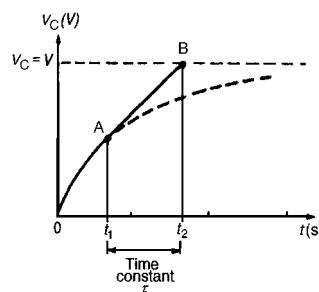

Figure 18.3
- (a) If a constant d.c. voltage is applied to a series connected C – R circuit, a transient curve of capacitor voltage v_C is as shown in Fig. 18.3(a).
- (b) With reference to Fig. 18.3, let the constant voltage supply be replaced by a variable voltage supply at time t_1 seconds. Let the voltage be varied so that the **current** flowing in the circuit is **constant**.